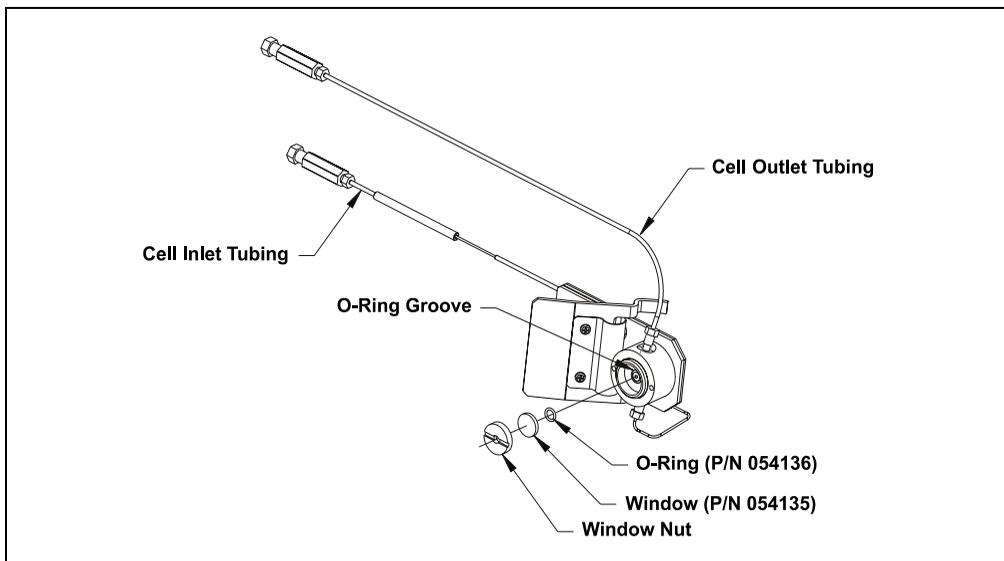

Figure 5-2. Replacing the Flow Cell Windows (Light inlet side shown)
Check that the flow cell inlet tubing is routed through the heat exchanger (see Figure 2-4) and is correctly connected to the inside front panel (see Figure 5-2). Check that solvent flow is directed to the cell inlet and out the cell outlet.
3. Using the windows replacement tool (P/N 060497), remove one of the window nuts from the flow cell (see Figure 5-2). (It does not matter which window nut is removed first.)
5. Use tweezers to carefully remove the O-ring from the groove (see Figure 5-2).